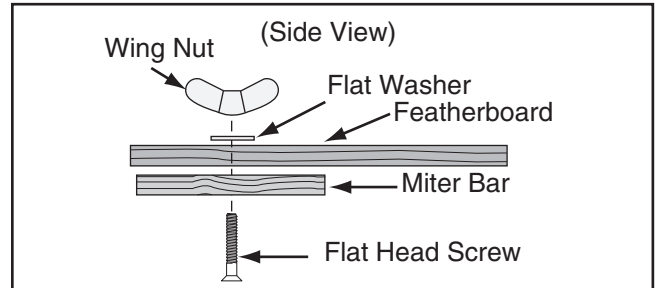

Figure 74. Assembling miter slot featherboard components.
- Assemble the miter bar and featherboard with a $\frac{1}{4}$ "-20 x flat head screw, flat washer, and a wing nut or a star knob (see **Figure 74**). Congratulations! Your featherboard is complete.